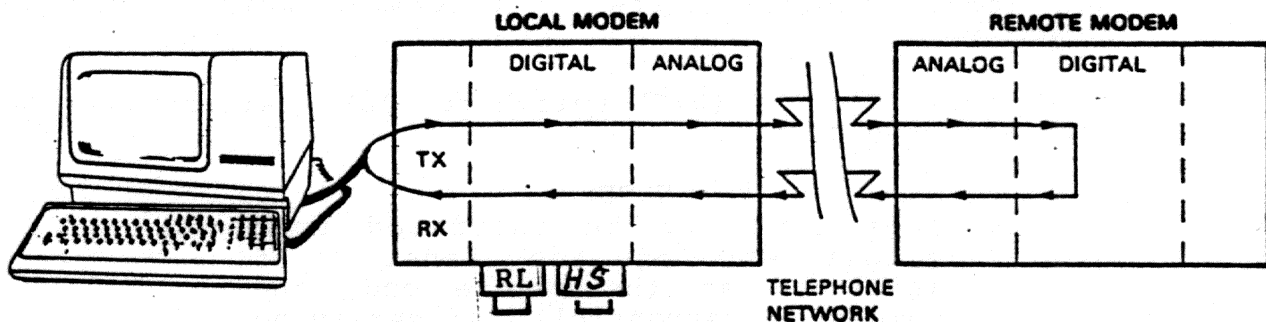

Figure 4-6 Remote Digital Loopback
4.4 TEST AREA 3 -- REMOTE DIGITAL LOOPBACK TESTS (FIGURES 4-6 AND 4-7)
4.4.1 Remote Digital Loopback (Figure 4-6)